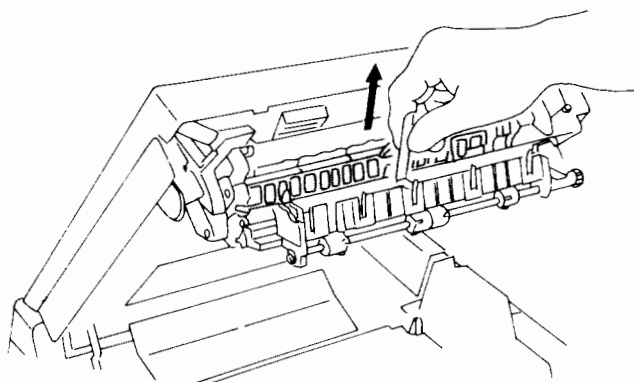

Figure 7-7 Scraping toner from separators
4. Use the separator cleaning tool to scrape any residual toner off the five separators. Refer to Figure 7-7.